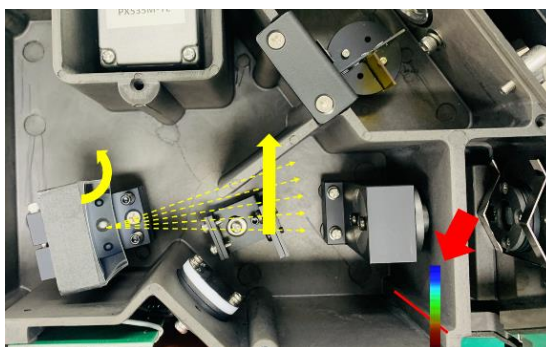

Figure 17. Setting the grating position to find the spectrum.
- b. Carefully move the grating holder to the direction indicated with yellow arrow in Figure 17 with your hand.